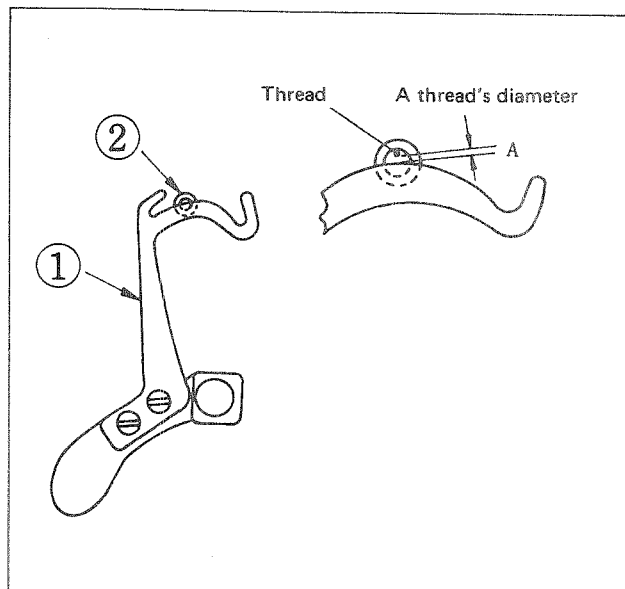

Fig. 28
(1) Needle thread take-up lever (Fig. 28)
Adjust the needle thread take-up lever in the extreme front position so that its highest level is the same as that of the thread hole in the forked needle thread guide, where a needle thread lightly touches the lever, or lower than that by about a thread's diameter as shown by "A" in Fig. 28.